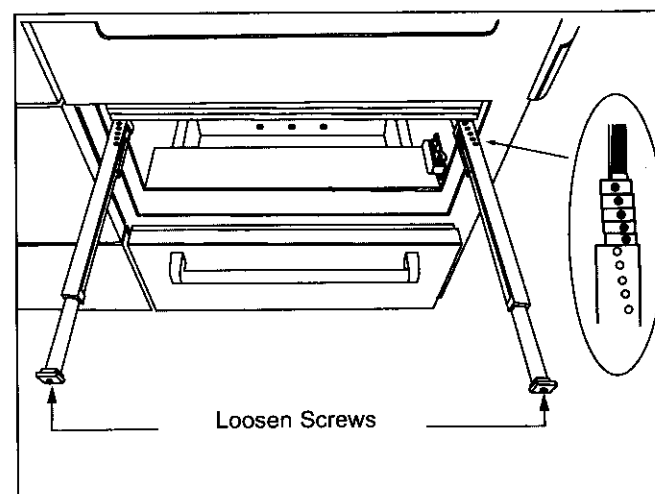

Figure 2-16. Horizontal Drawer Adjustment
5. Reinstall hinge pin and door. With door open, use an Allen wrench, and turn adjustment screw to adjust cabinet hinge (See Figure 2-16).
1. Loosen screws on the front two slide assemblies. (See Figure 2-16)
2. Move adjust blocks to desired location and tighten screws. (See Figure 2-16).
4. Move the block forward to shift drawer to the right, and back to move to the left. Each position will move the drawer .030" (.8 mm) (See Figure 2-16).
5. Snap the block over the pins located on the rear adjuster. (See Figure 2-16)